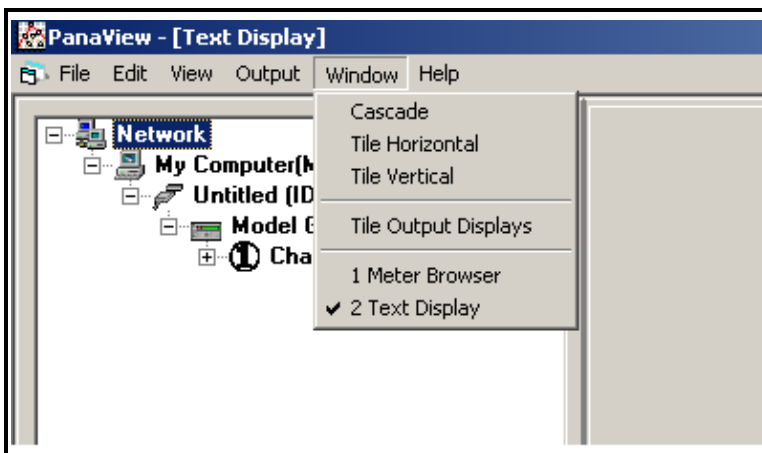

Figure 5-18: The Window Menu
4. To rearrange the two open windows, pull down the “*Window*” menu (see Figure 5-18 below).
Note: *After resizing or removing any of the multiple text screens, the default tiled layout may be restored by opening the “Window” menu (see Figure 5-18 on page 5-19) and clicking on the “Tile Output Displays” option.*
3. Arrange the multiple “*Text Display*” windows as desired via the “*Window*” menu (see Figure 5-18 on page 5-19).